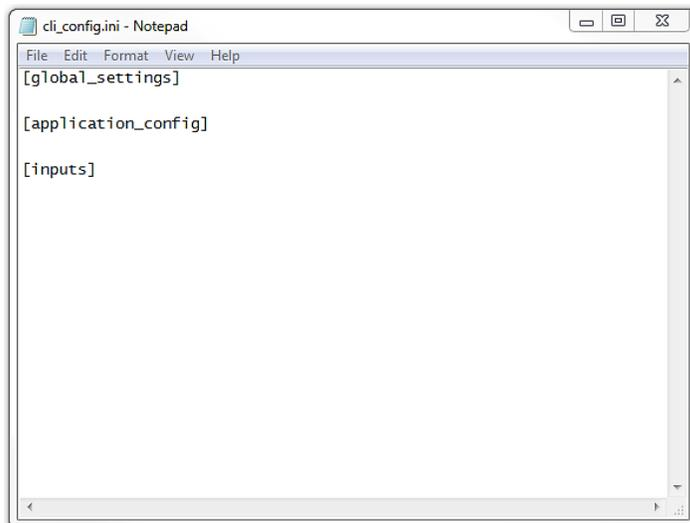

Figure 34: Running an application in the command line - Creating the application configuration file
4. Create three sections in the configuration file: *global_settings*, *application_config*, and *inputs* with each heading enclosed by square brackets (Figure 34).